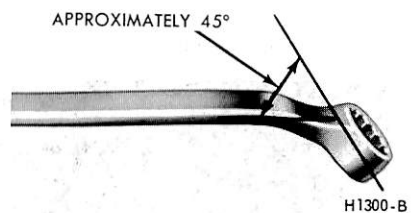

FIG. 13—Wrench For Bleeding Brake Hydraulic System
3. Position a suitable 3/8 inch box wrench (Fig. 13) on the bleeder fitting on the brake wheel cylinder. Attach a rubber drain tube to the bleeder fitting. The end of the tube should fit snugly around the bleeder fitting.
4. Position a 3/8 inch box wrench (Fig. 13) on the bleeder fitting on the right rear brake wheel cylinder. Attach a bleeder tube to the bleeder fitting. **The end of the tube should fit snugly around the bleeder fitting.**